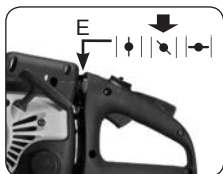

Fig. 9G
- Move choke lever (E) to |◀| (HALF) (Fig. 9G).